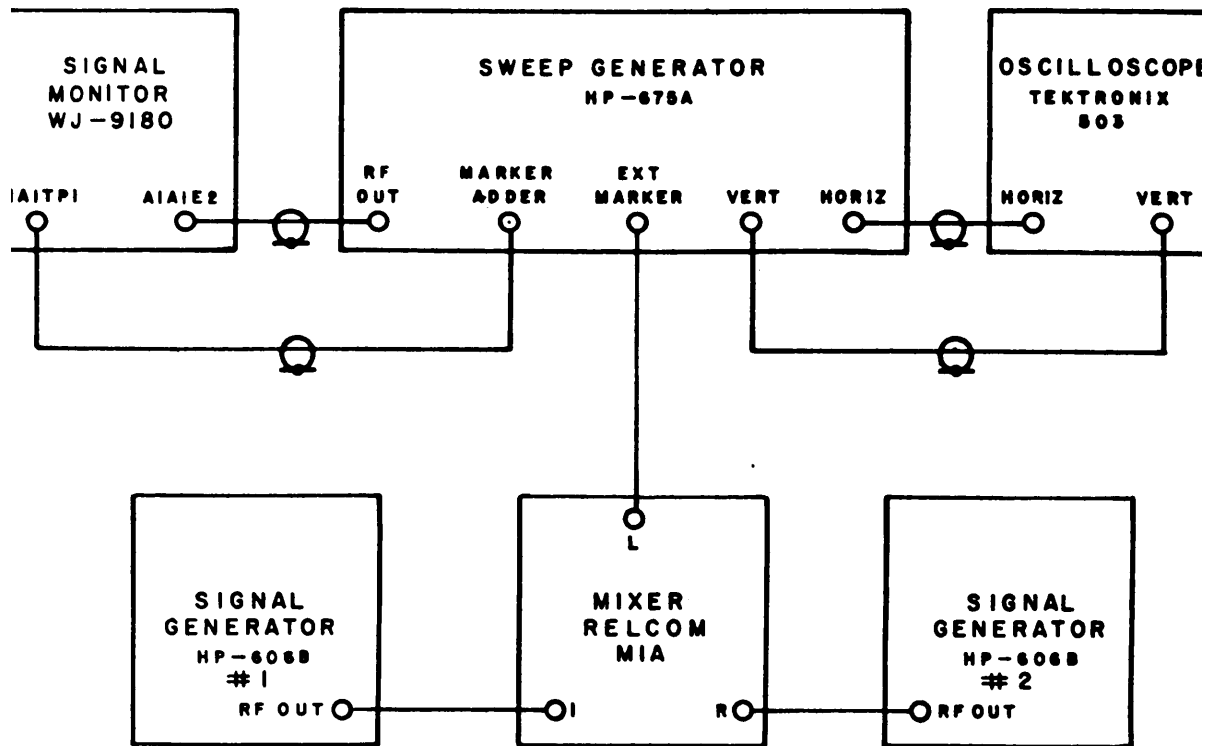

Figure 4-4. Equipment Setup for IF Amplifier Board #1 Alignment
- 1) Connect the equipment as shown in Figure 4-4.